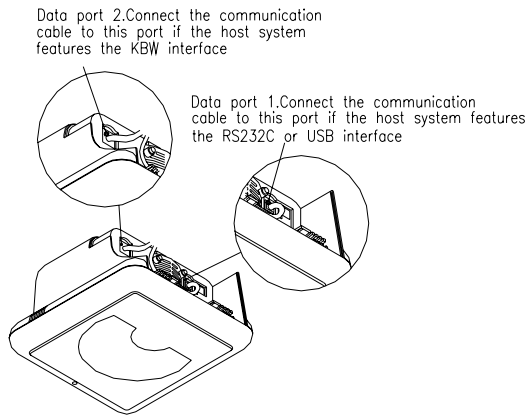

Figure 2.2
2. If the POS system is the RS-232C or USB interface, plug the communication cable with the 8 pin modular jack into Data port 1, or if the POS system interface is Keyboard Wedge, plug the communication cable into Data port 2. Plug the other end of the cable into the appropriate serial port of your POS or computer. Use the universal power supply. Lead the cables through the scanner as illustrated in figure 2.2.
4. Plug the communication cable with the 8 pin modular jack in the appropriate Data port of the scanner. Refer to figure 2.2 for the Data port applicable to the interface used. Plug the other end of the cable into the appropriate serial communication port of the POS system.